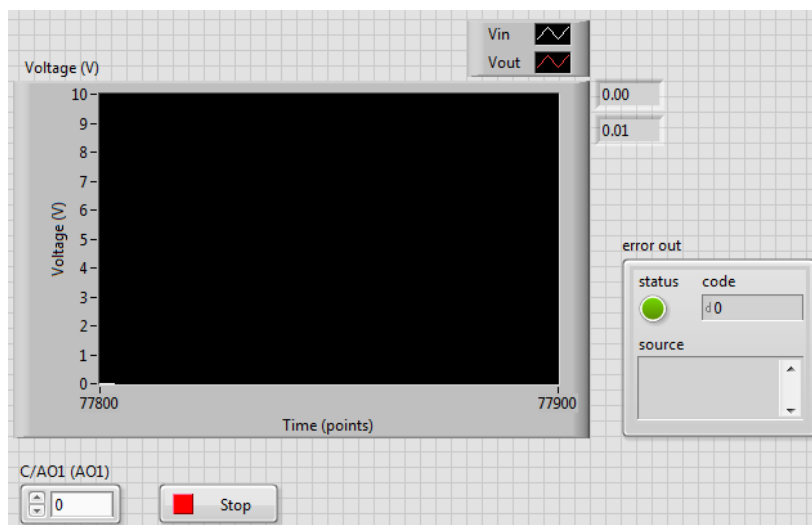
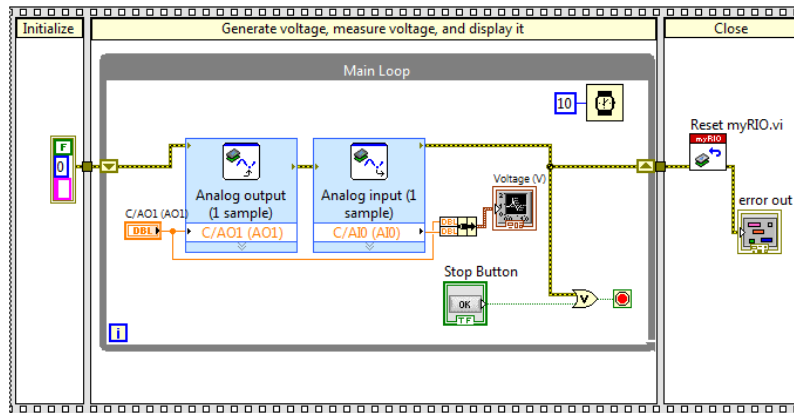

Figure 02.15: how the front panel of your VI might look.
Figure 02.16: how the block diagram of your VI might look.
- 6. Connect both AGND (6) and AI0− (8) to the circuit’s ground.
- 7. Connect AI0+ (7) to the node shared by the two resistors—call the resistor you’ve just connected between AI0+ and AGND your “output” resistor (it should be R_2 at this point).
- d. displays digital readouts of the current voltage output and input, continuously. The front panel of Figure 02.15 and corresponding block diagram of Figure 02.16 show one way of realizing this VI.